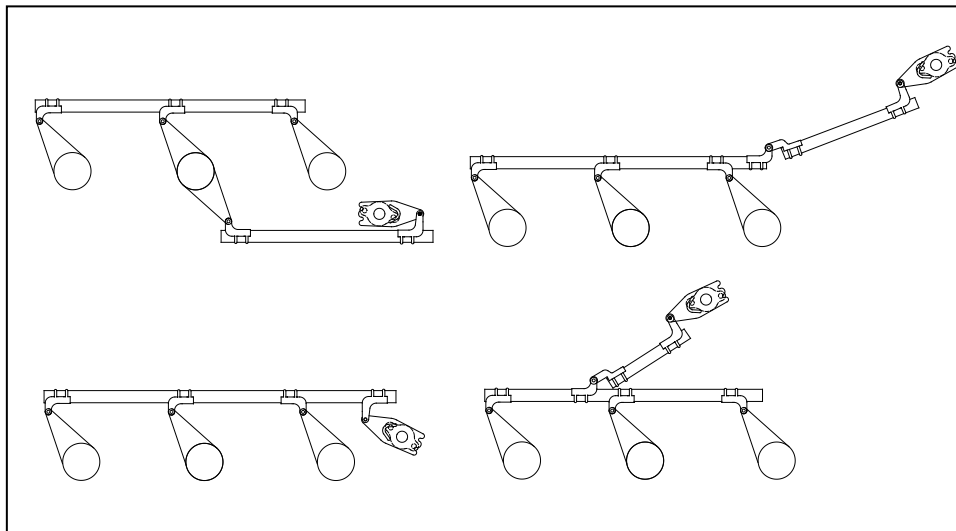

Figure 19: Alternate Operating Mechanism Designs
- 5.2. **Figure 19** shows alternate operating mechanism designs, each of which is employed as being the simplest arrangement for a given structure. In all cases, however, the operating principle remains the same, and the methods of installation and adjustment are virtually identical.